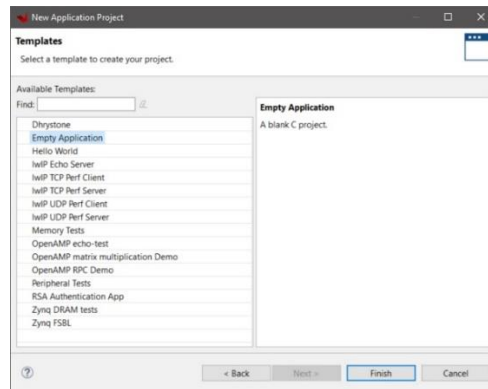

Figure 29
6. In the **Templates** page, select **Empty Application** from the list of **Available Templates**: and click **Finish** (Figure 29)